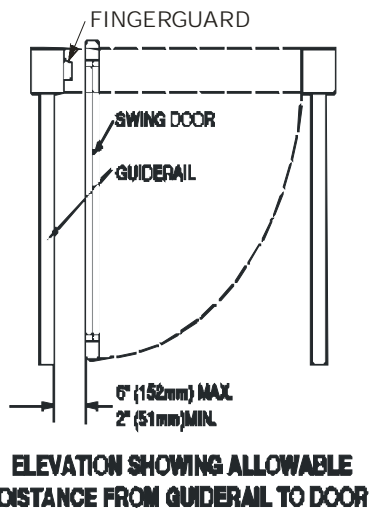

Figure 13
- 9. Finger Guard. If installed, inspect finger guard to see that it is secure and in good repair. (See Figure 13)